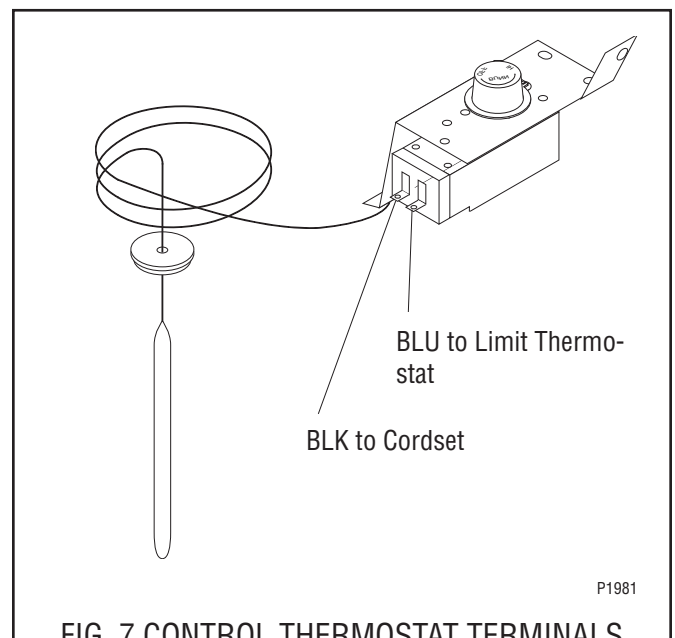

FIG. 7 CONTROL THERMOSTAT TERMINALS
8. Refer to FIG. 7 when reconnecting the wires.